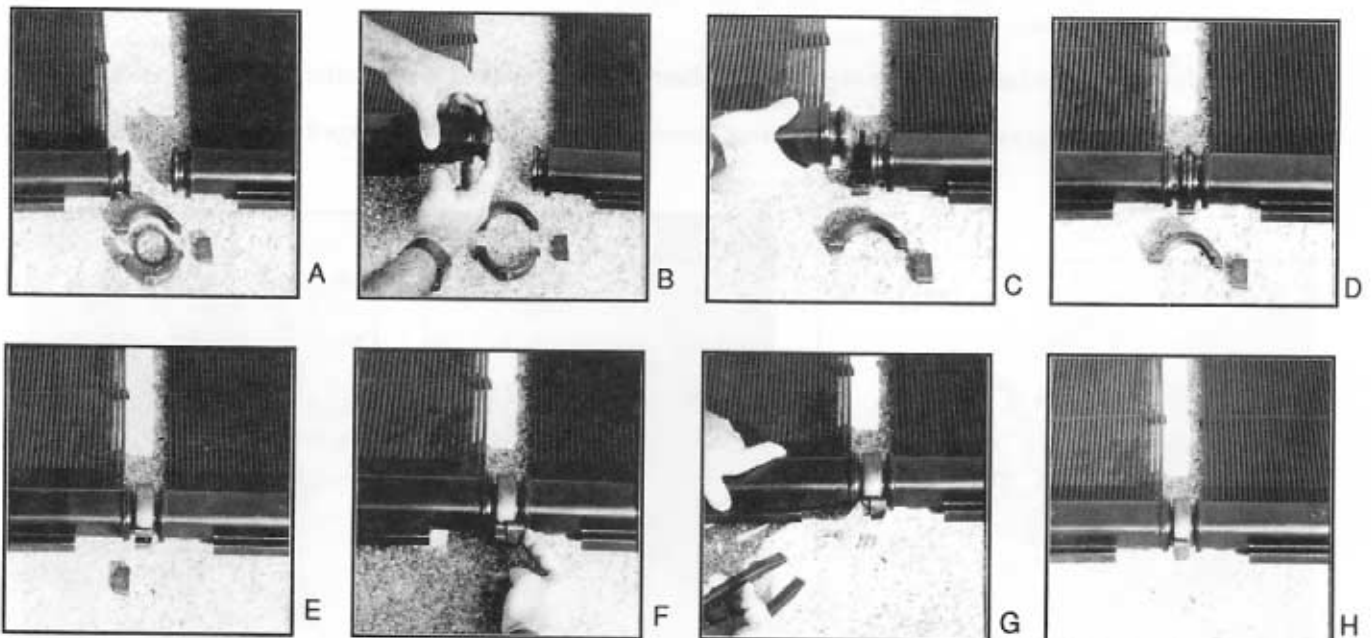

FIG 6.2
1. Place two collectors next to each other. The spacer bars that hold the individual riser tubes together should be facing down. Lay a Plastic Panel Clamp (STR-PPC) top, bottom, gasket and clip where the two headers meet. (Fig 6.2 - A)
3. Spray the gasket with silicone and insert it into the groove of one of the headers. Make sure that the gasket is fully seated into the header groove by pushing firmly with your thumb all the way around the gasket. (Fig 6.2 - B)
4. Place the bottom half (see Fig. 6.3) of the Plastic Panel Clamp (STR-PPC) under the collector header with the hook portion of the panel clamp on the inside of the collectors. (Fig 6.2 - C)
5. Seat both headers together by inserting the gasket into the opposite header groove and placing the ends of both headers into the open space in the panel clamp bottom. (Fig 6.2 - D)
6. Interlock the top half of the panel clamp with the hook on the bottom half. Swing top half over top of collector headers. Squeeze the top and bottom portions of the panel clamp together using channel lock pliers and lock both halves of the clamp together using the locking clip. (NOTE: Slide large end of locking clip over small end of Plastic Panel Clamp assembly.) (Fig 6.2 - E & F)
7. Use channel lock pliers to tighten the clip grip by squeezing it with reasonable force until it seats flush or even slightly farther so it cannot slide out of its position. (Fig 6.2 - G)